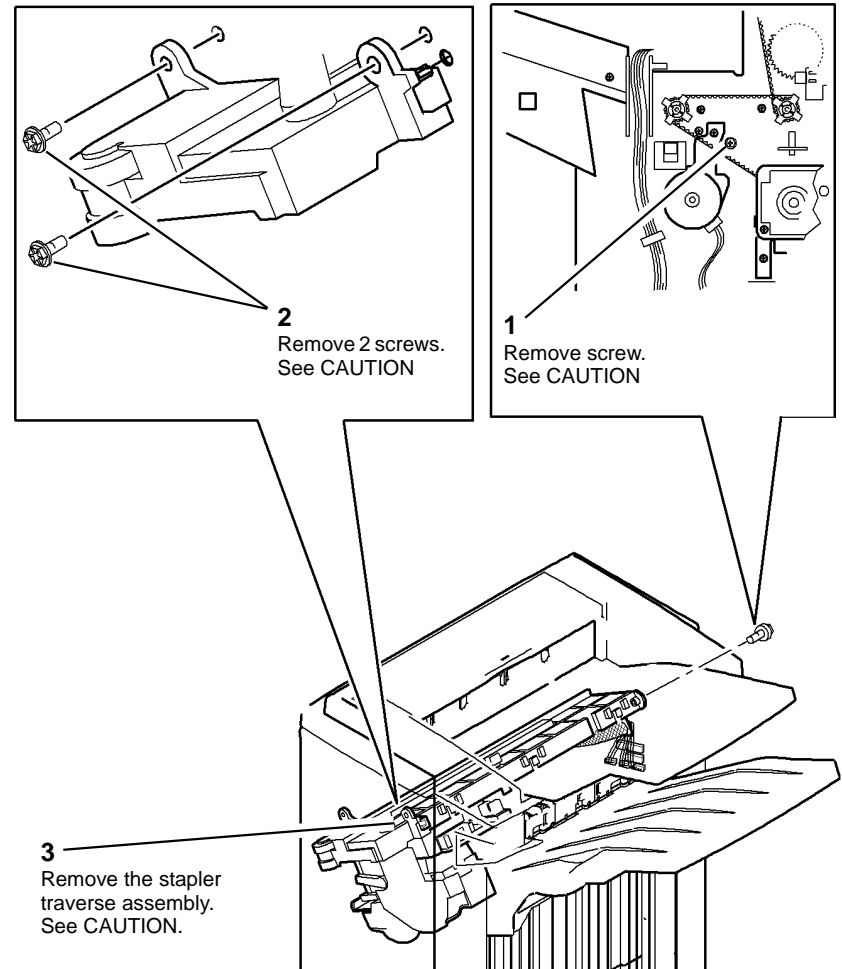

Figure 2 Removing the stapler traverse assembly
5. Remove the stapler traverse assembly, Figure 2.